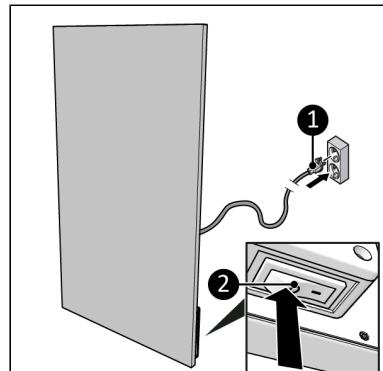

Figure 27.
2. Make sure the ON/OFF switch is in the OFF position (Figure 27, pos. 2).
3. Insert the power plug (Figure 27, pos. 1) into an earthed wall socket that is easily accessible. Use an earthed wall socket with a minimum power of 1000 Watt.